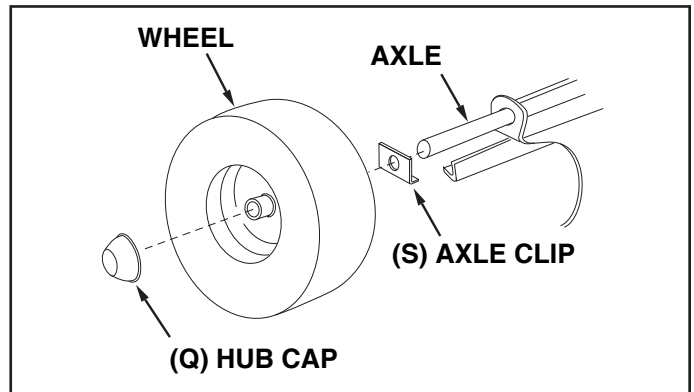

FIGURE 6
12. Assemble an axle clip (S) and a wheel with the valve stem facing out onto the axle. Assemble a hub cap (Q) by pressing or tapping it onto the axle. Repeat on other end of axle. See figure 6.